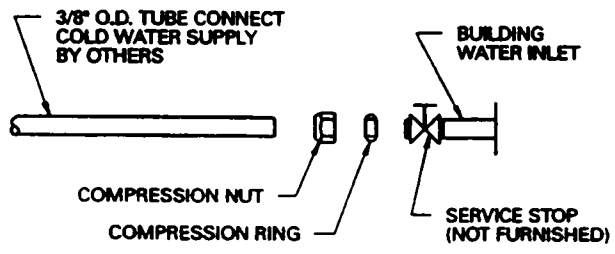

FIG. 2B
- 6). If "Y" strainer is not provided, connect 3/8" O.D. tubing directly to the service stop as shown in Fig. 2B.